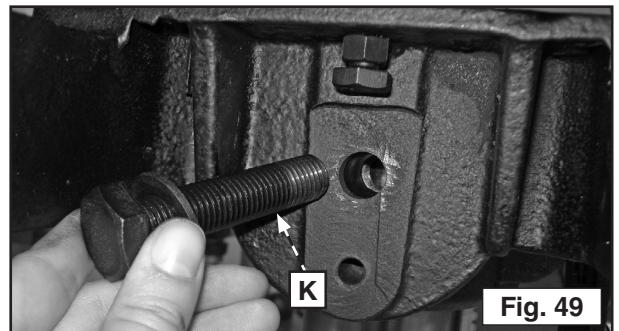
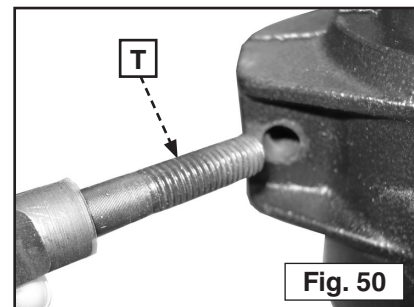

Fig. 49
Fig. 50
Occasionally remove the knuckle clamp bolt (K) Fig. 49 and table clamping bolt (T) Fig. 50 and clean off all dust and other contamination. Also, be sure to clean any dust or contamination from the hole using a small brush (like an old toothbrush).